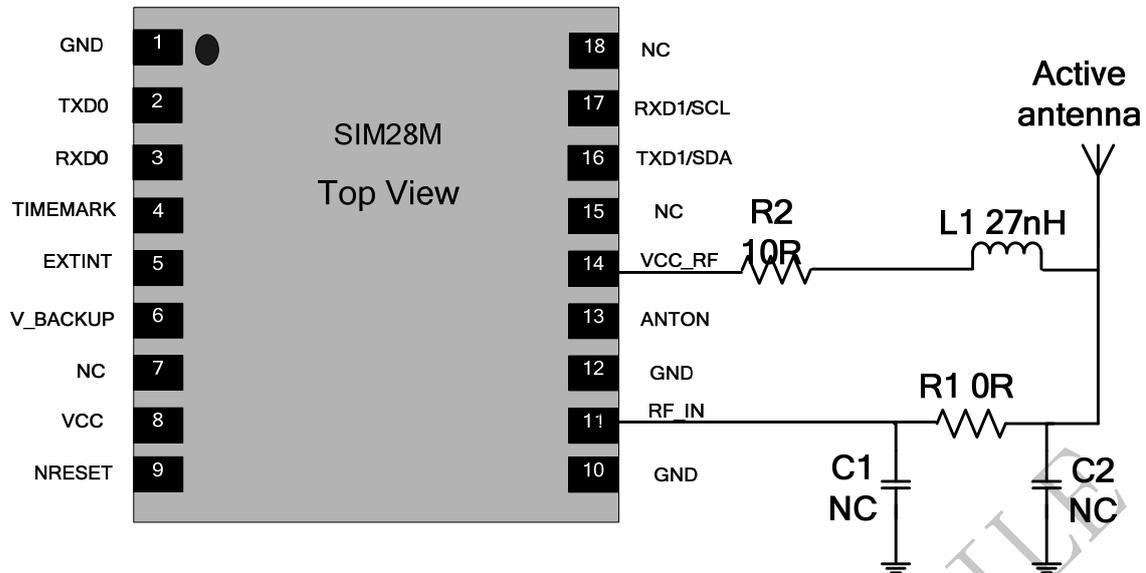

Figure 8: SIM28M Active antenna simplified design
- Usually Pin 14 VCC_RF is directly used for the active antenna power input, as shown in Figure 8. The voltage range is from 2.8V to 4.3V, typical value is 3.3V, and the max driver current is 50mA. If the VCC_RF voltage does not meet the requirements for powering the active antenna, an external LDO should be used. The inductor L1 is used to prevent the RF signal from leaking into the VCC_RF pin and route the bias supply to the active antenna, the recommended value of L1 is no less than 27nH. R2 can protect the whole circuit in case the active antenna is shorted to ground.